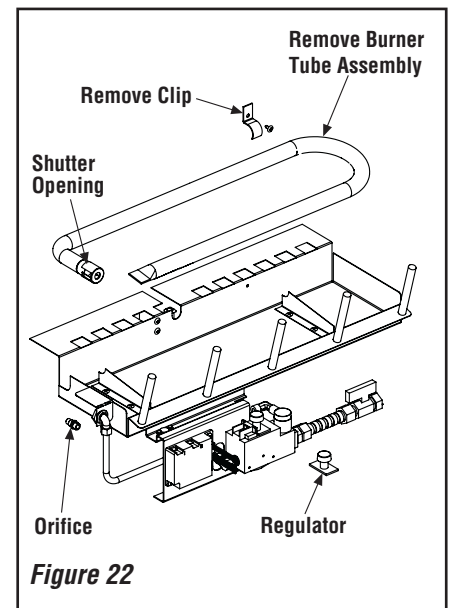

Figure 22
Step 3. Refer to *Figure 22*.
Step 6. (Refer to **Figure 22, Page 15**)
B. Retrieve the burner and slide the venturi tube over the orifice. Secure the burner in place with the clip shown in **Figure 22, Page 15**.